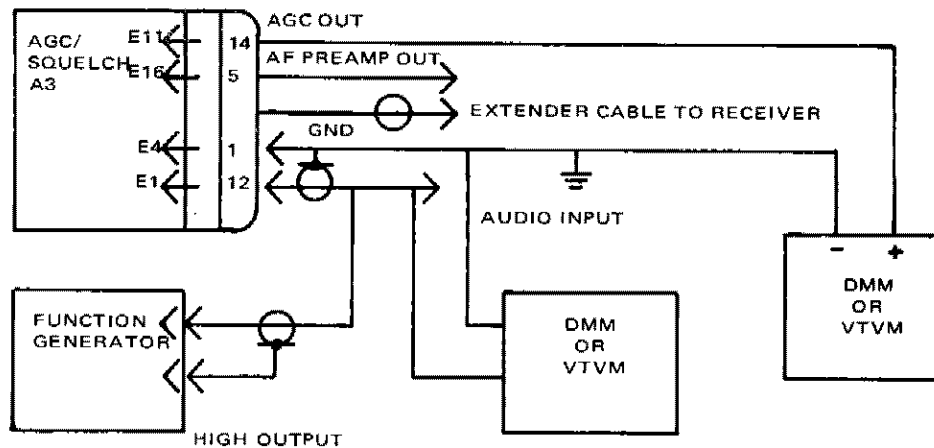

Figure 7-9 Test Setup for AGC/Squelch A3
**7.14.9 AGC/Squelch A3 Alignment.**- Figure 7-9 shows the test setup. See figures 10-11 and 11-25 for test point and measurement point locations.
**7.14.9.2 Procedure.**- Place AC POWER ON-OFF switch in OFF position. Remove the IF amplifier (A6) module, connect test equipment as shown in figure 7-9 and proceed as follows: